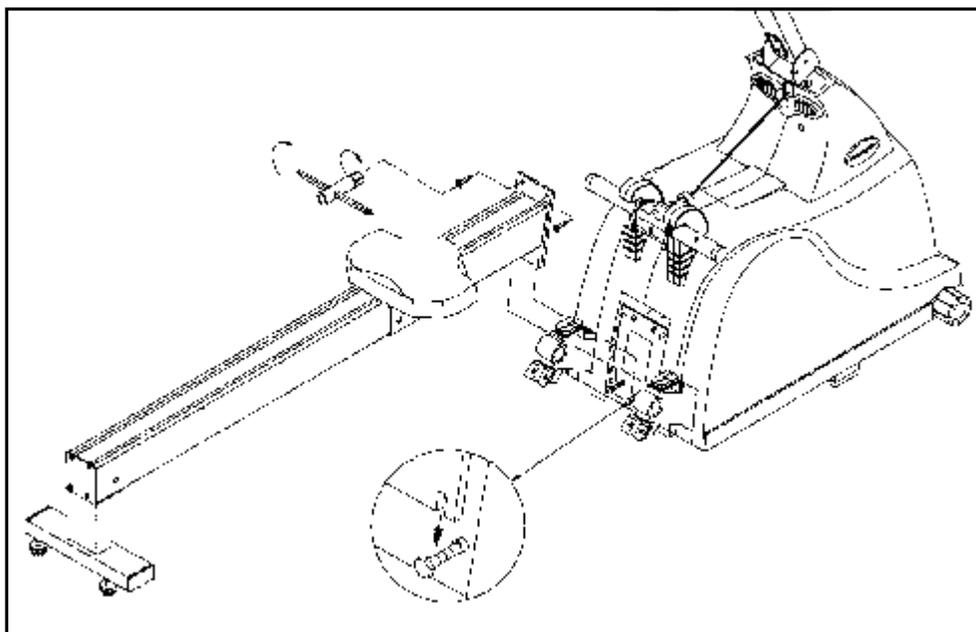

FIG.2
2. Slide the seat frame over the lower two frame bolts, then secure with the top two frame bolts. Tighten all four bolts (see Fig. 2).